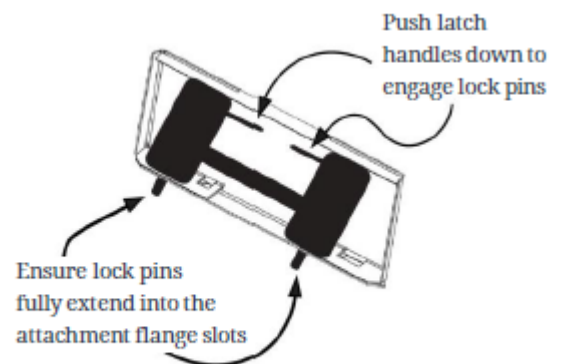

Figure 4.2b: Lock Pins Engaged
4. Activate your skid steer's lever lock switch to engage and lock the pins into the flange slots of the trencher's attachment plate. If your skid steer does not have this switch, push the latch handles down until you can see the lock pins extend into the attachment flange. See Figure 4.2b below.